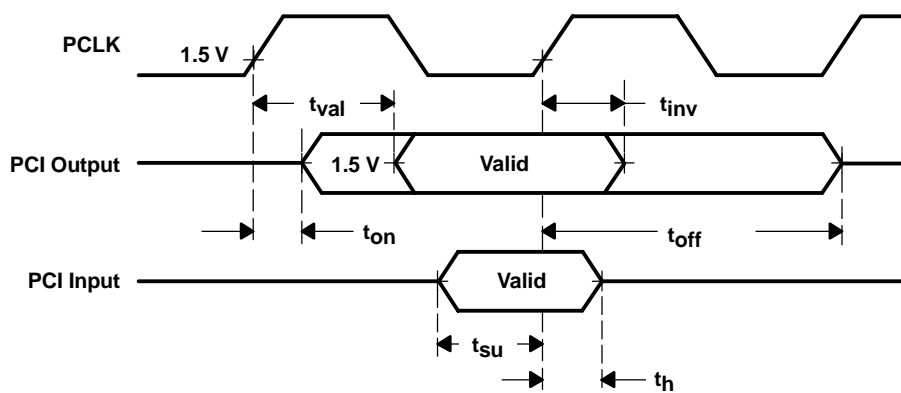

Figure 25. Shared Signals Timing Waveforms
**PCI timing requirements over recommended ranges of supply voltage and operating free-air temperature (see Note 7, Figure 22, and Figure 25)**